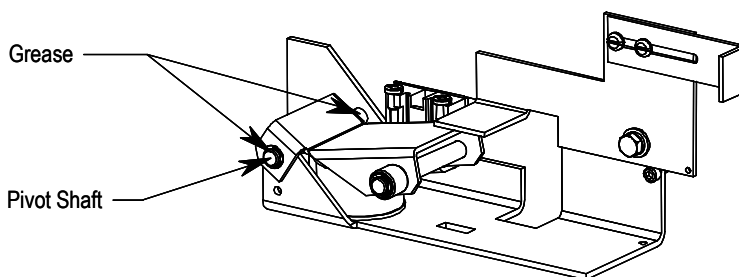

Figure 4.3 – Mechanical Latch Grease Locations
- Using Aeroshell No. 7 (1 oz. tube, Part No. 40025-198-01) grease the pivot shaft at the bearing points on the mechanical latch mechanism option (Figure 4.3).